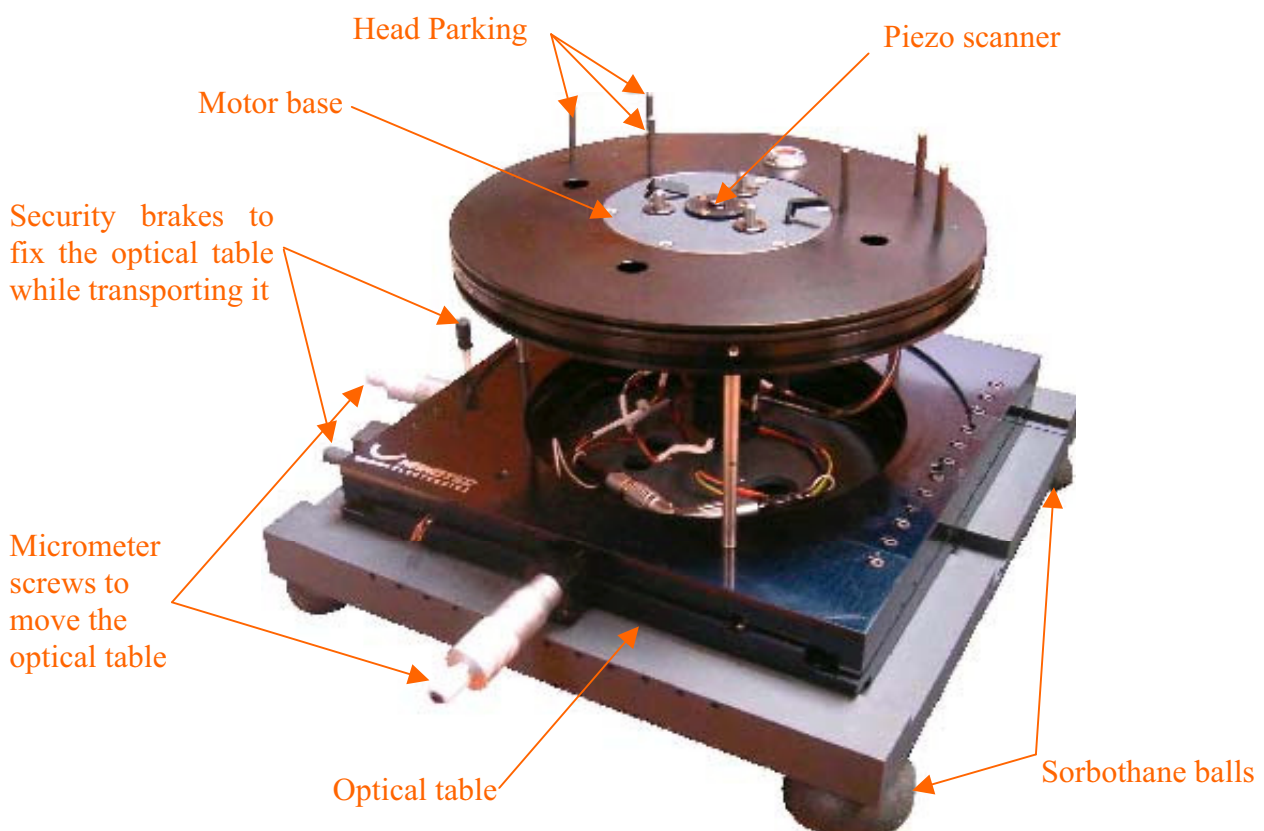
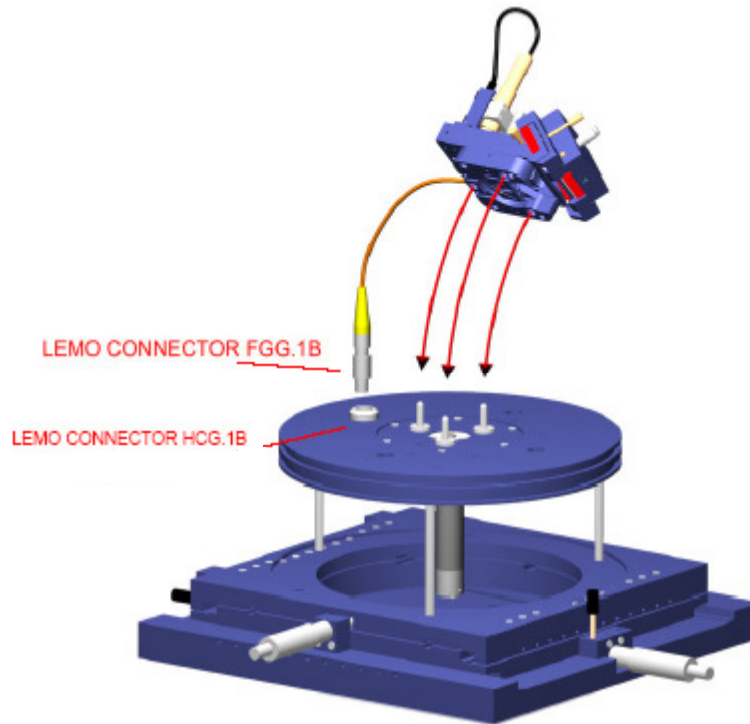

Fig.2.1 Chassis
Fig.2.11 AFM head assembly
When you receive your AFM system, it should appear as in figure 2.1, except the piezo scanner, it will not be installed. Take the sorbothane balls out of their package and place them under the chassis as shown in Fig.2.1.
- You have to place the head onto the three micrometer screws at the motor base, matching them with the appropriate holes in the head (see Fig.2.11). You can also place it at the parking head (see Fig.2.1).
- Connect the head to the chassis through the LEMO connectors ( see Fig. 2.11), making sure that you align the red points and that you hear a “click” when connecting them..